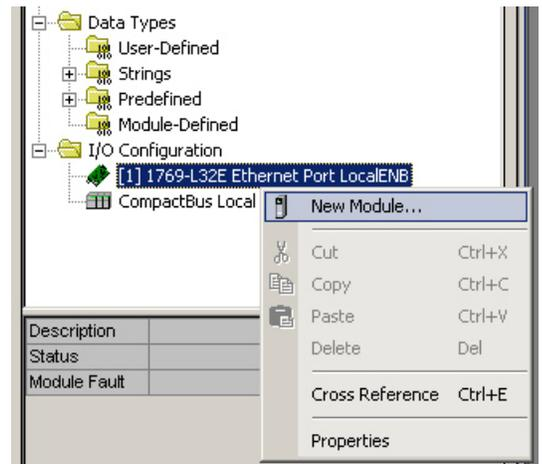

Figure 9.1 Adding an SMD23/4E
- 1) As shown in figure 9.1 on the right, the Ethernet port will be listed under the I/O Configuration tree. Right click on the port and then click on “New Module...” in the pop-up menu.